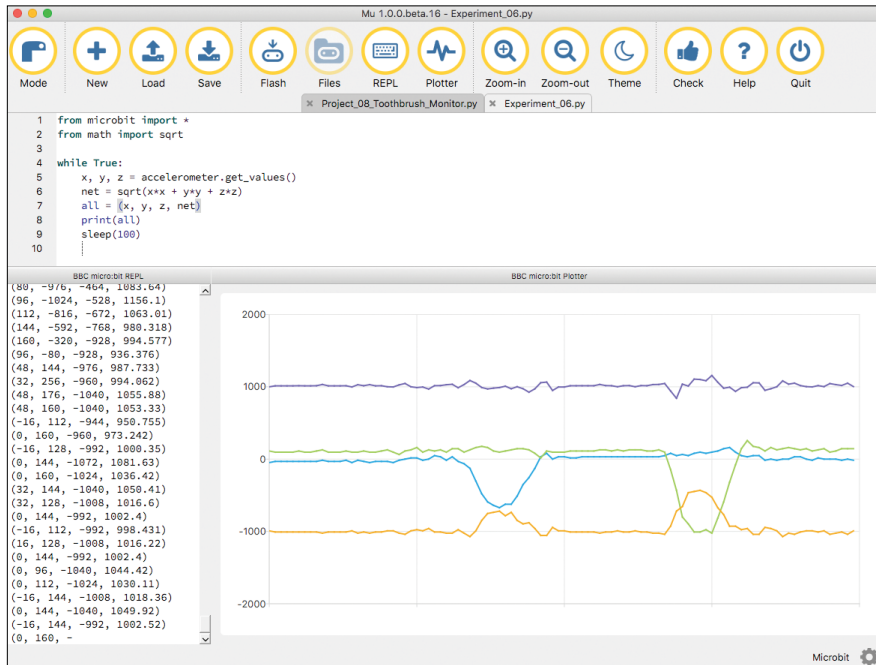

Figure 5-4: Plotting accelerometer data using Mu
- Click the **Plotter icon** in the Mu toolbar to open Mu's Plotter, shown in Figure 5-4. If you want to see the raw data that Mu is using to create graphs, click the **REPL** button.
As you can see in Figure 5-4, there are four plots, each drawn in a different color. There is one plot for each dimension (blue for X, green for Y, and orange for Z). There is also a purple plot for the *net acceleration*, which is the combination of the forces in all three dimensions. We'll explain how the net acceleration is calculated in "How It Works: Calculating Net Acceleration" on page 11.